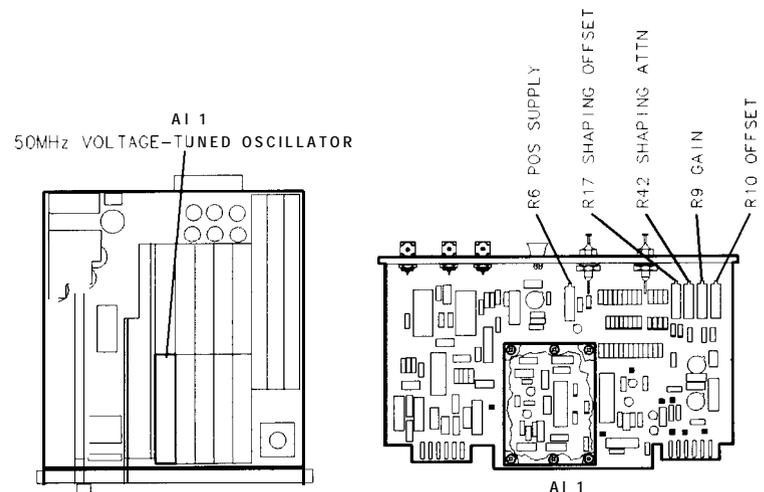

Figure 3-79. Location of 50 MHz VTO Adjustments
11. Adjust All OFFSET A11R10 and/or All GAIN A11R9 for VTO frequency of 28.750 MHz ± 0.005 MHz as indicated by CRT annotation. See Figure 3-79 for location of adjustment.
14. Adjust All POS SUPPLY A11R6 for a DVM indication the same as that noted in step 12. See Figure 3-79 for location of adjustment.